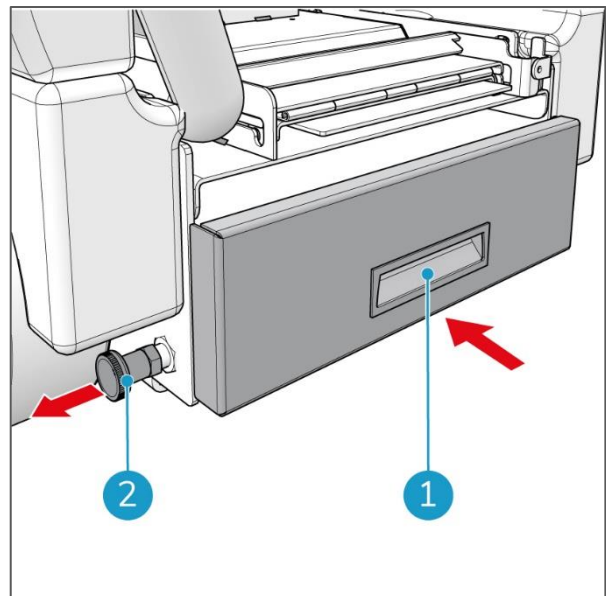

Figure 16
5. Pull out the locking pin on the left side (Figure 16, pos 2) of the battery drawer.
6. Push the battery drawer into the i-drive® by the black handle (Figure 16, pos 1) until it locks into place.